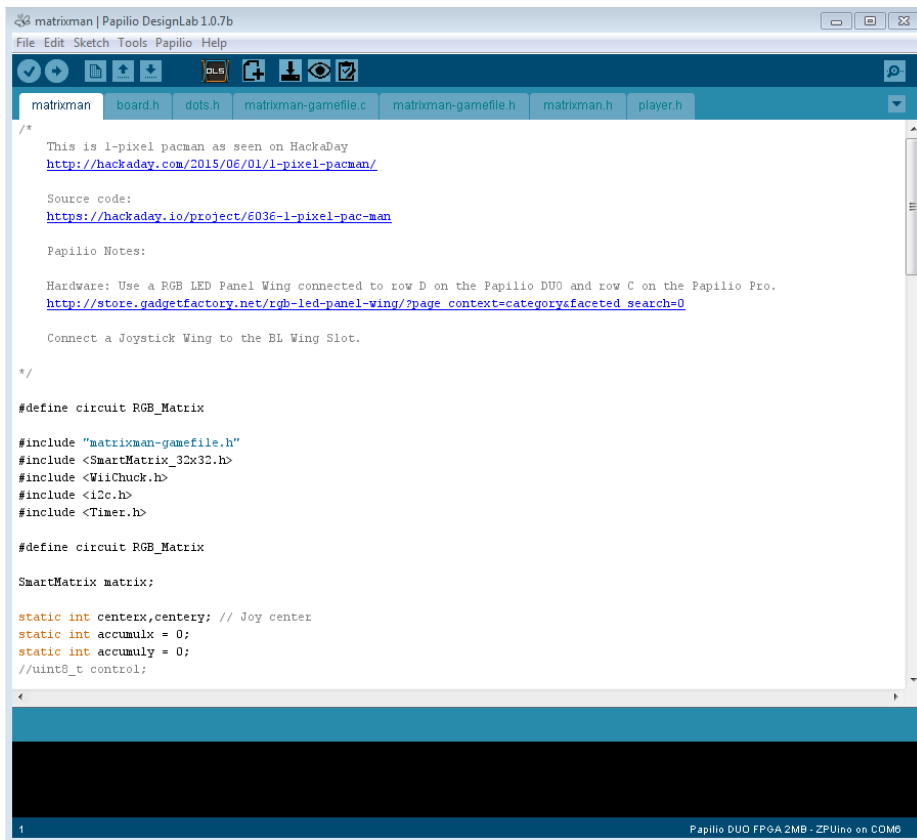

Figure 7-13 *Matrixman in DesignLab*
1. Open DesignLab and go to File→Examples→SmartMatrix_32x32/matrixman. Your screen should look like Figure 7-13.